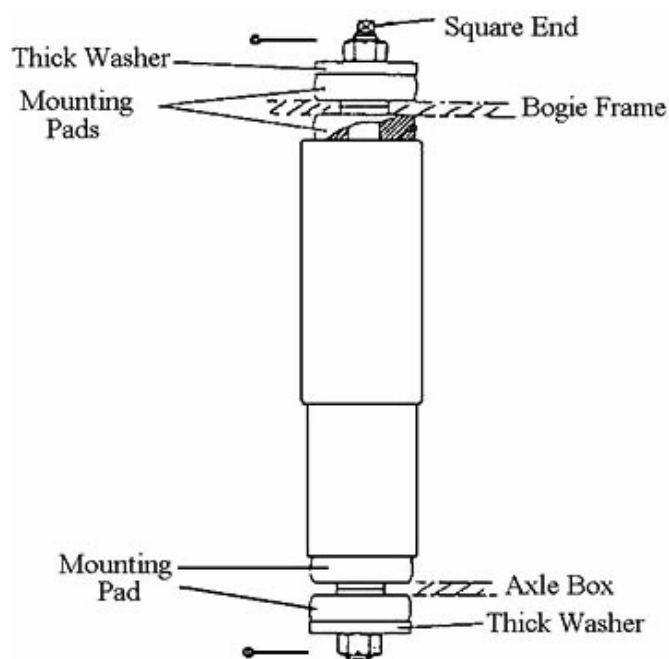

Figure 28.1: Assembly of Primary Damper
28.2 Assemble damper with mounting pads as shown in Figure 28.1.